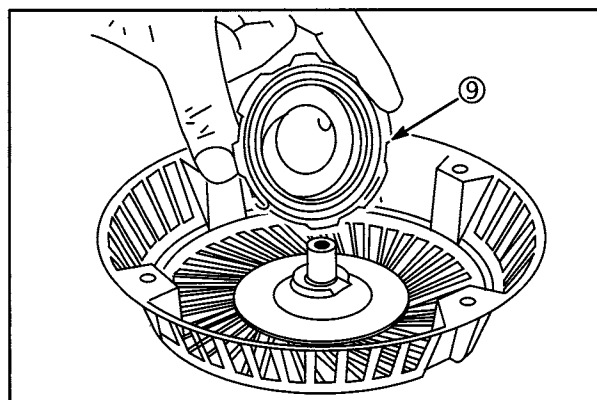

Fig. 66
6. Remove spring and cup assembly (9) from starter housing, **Fig. 66**.